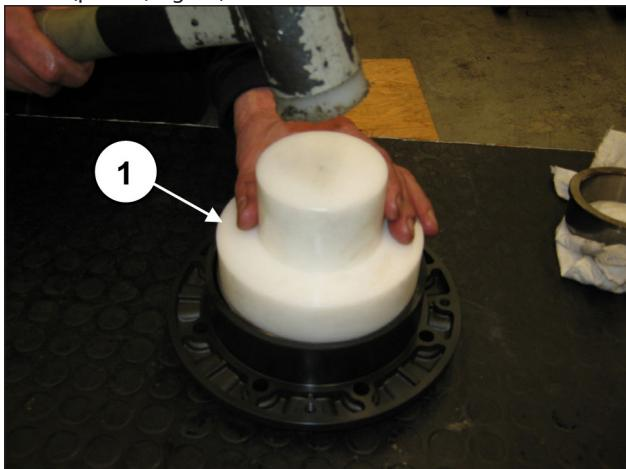
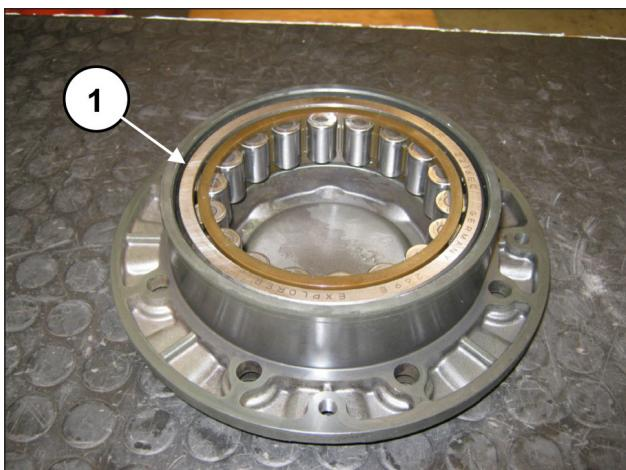

Fig. 55
Fig. 56
Repeat this operation on the bearing cover, pre-assembling the external crankshaft bearing ring with the help of the tool code 27605000 (pos. ①, Fig. 55) inserting fully down to end stroke (pos. ①, Fig. 56).